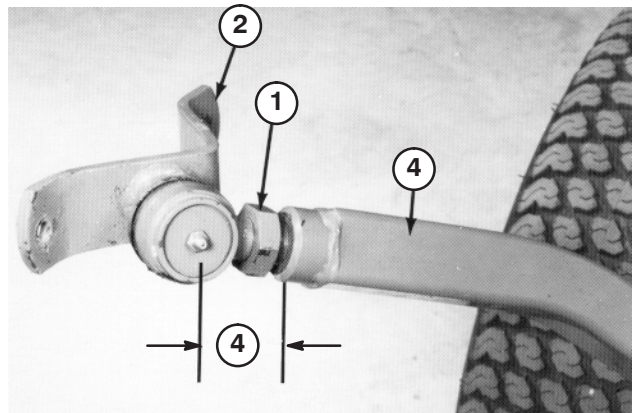

Figure 19
2. Screw ball joint into right hand push arm until center of ball joint is 2-3/8 in. (60 mm) away from front of push arm (Fig. 19). Do not tighten jam nut.